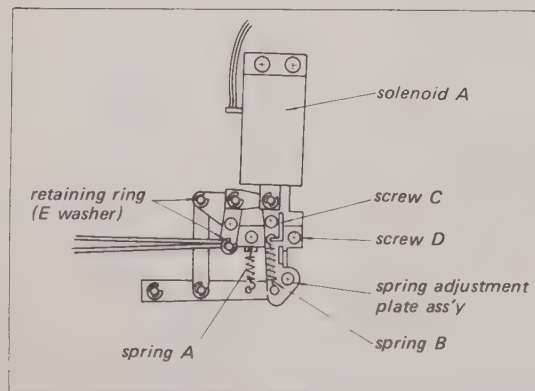

Fig. 5-34. Removal of solenoid A
3. Remove the E washers shown in Fig. 5-34 and unhook springs A and B.